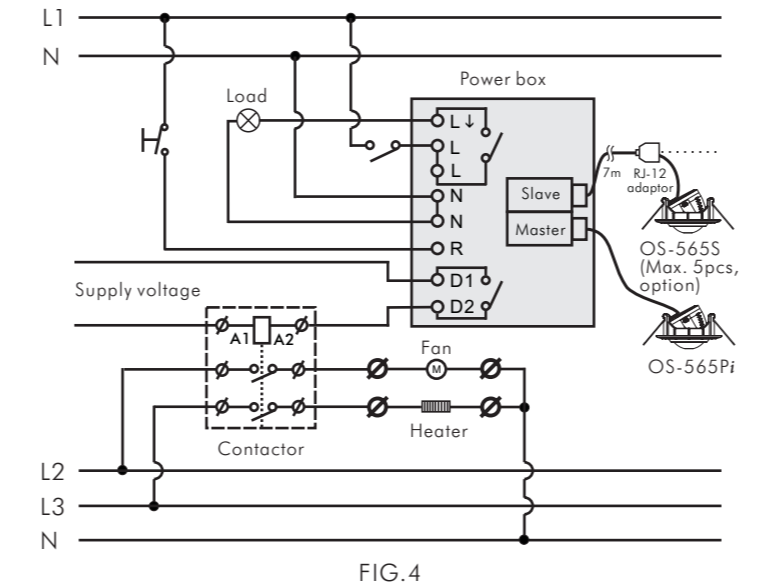

FIG.4
3.3.1.1 OS-565Pi for standard application (See FIG.4).